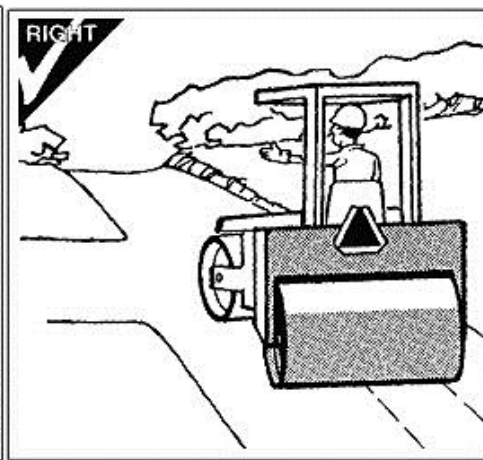

Figure. 1-12
- follow traffic regulations when driving on public roads, i.e.: turn on the steering and front lamps, and attach a tag to the machine tail, telling others the machine is a slow-moving vehicle (this is required in some countries). Always drive the machine within the speed limit of the traffic regulations and pay attention to the braking distance (as shown in Figure. 1-12).